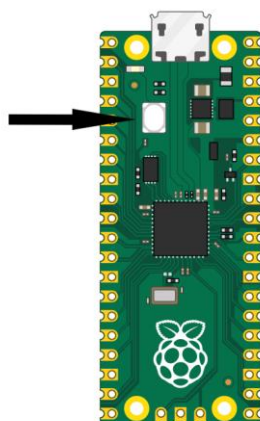

Figure 26: BOOTSEL Button on the Raspberry Pi Pico
2. Press the BOOTSEL button and hold it while reconnecting the USB cable between the Raspberry Pi Pico and the host computer (see Figure 26).